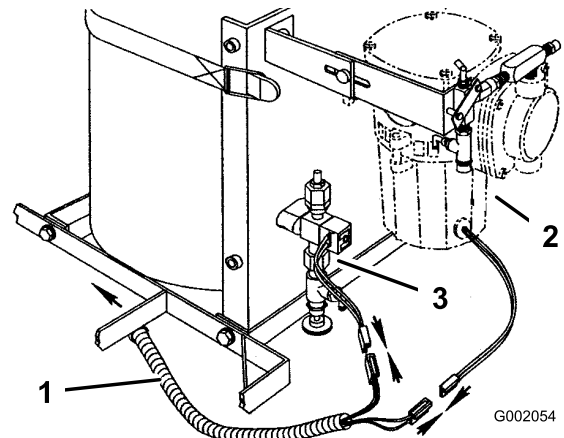

Figure 19
- Locate the wiring harness connectors furnished with the vehicle for the foam marker and make the connections to the compressor and the solenoid located at the foam tank/compressor assembly (Figure 19).
Note: The connectors are located along the right side frame rail strapped to the vehicle harness, where the tank/compressor is installed. Both of the plug connections are identical (Figure 19).